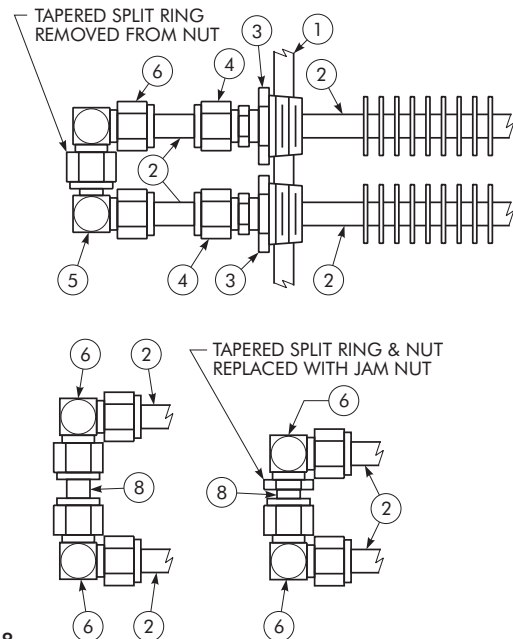

Figure 8
4. For shutdowns at ambient temperatures less than 32°F (0°C), drain the cooling tube system by removing the "loop end" assemblies on the end of the drive opposite the water inlet. Refer to Figure 8 on Page 23 for typical assemblies and record location of assemblies for reinstallation purposes.